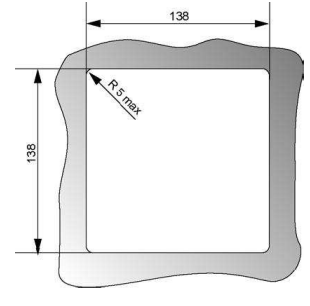

Figure 1
2. Make a cut-out in the panel as shown by the figure 1